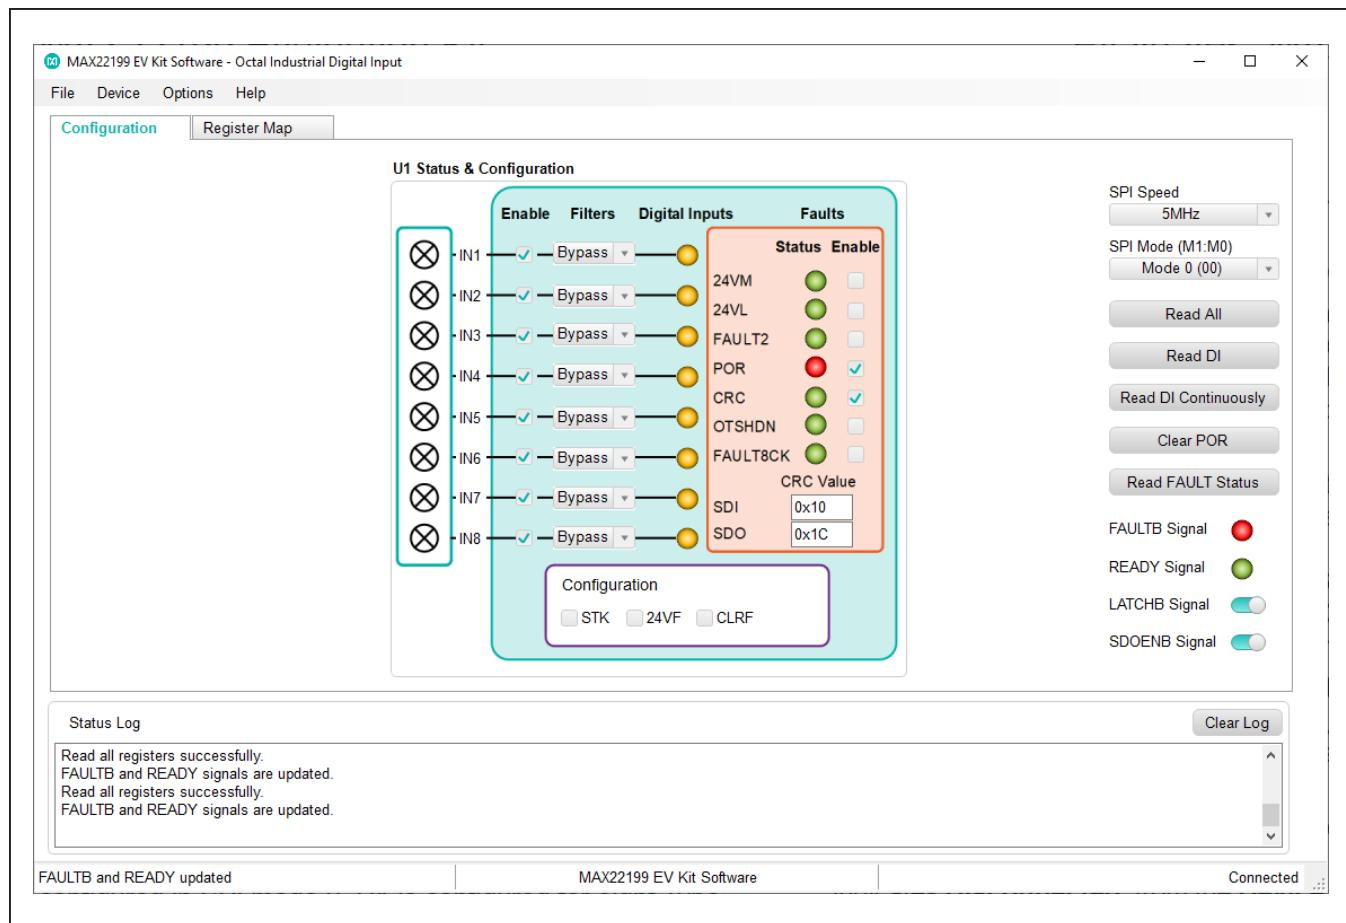
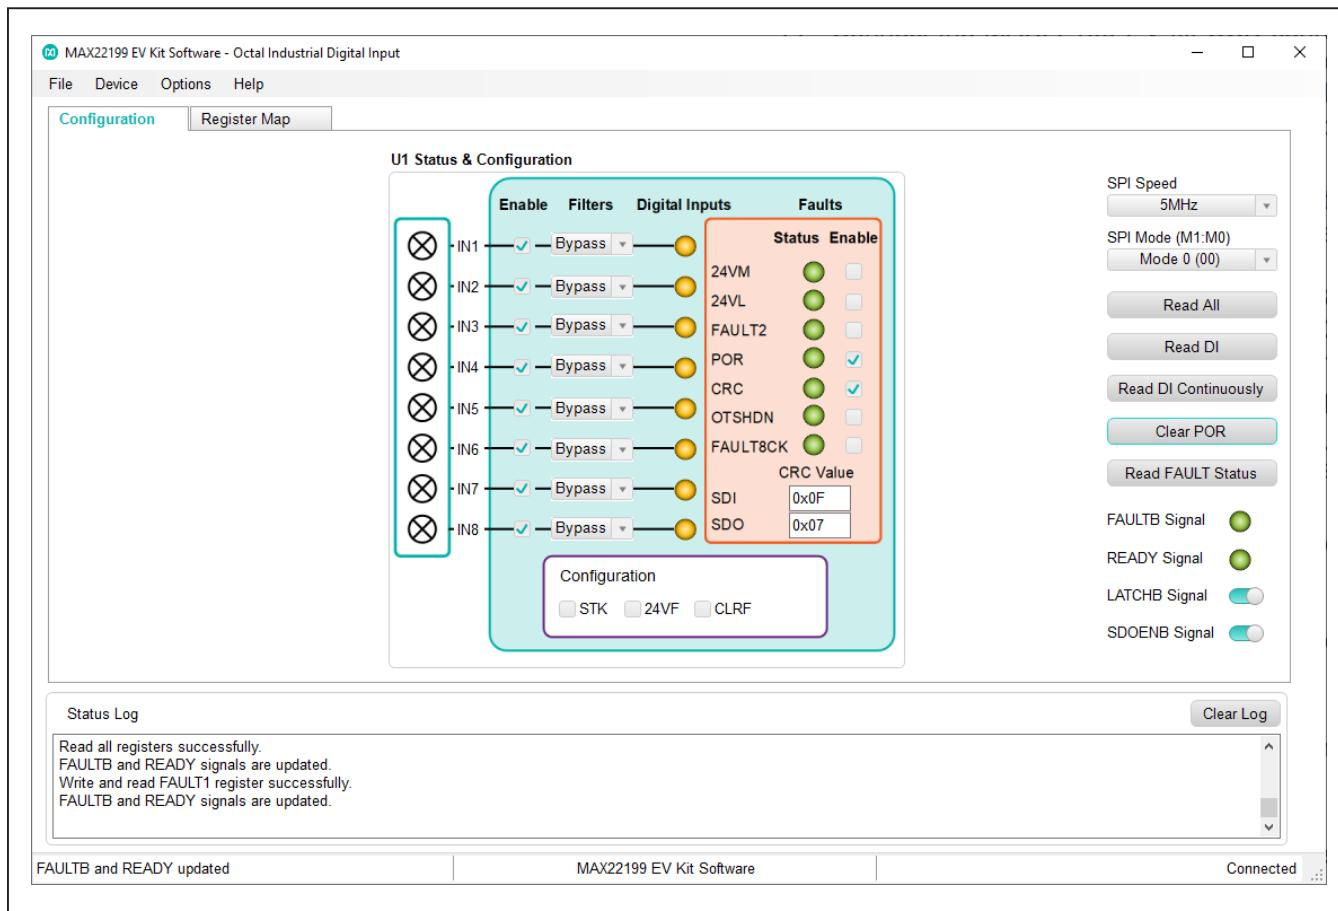

Figure 1. MAX22199 EV Kit Software Startup Window
Figure 2. MAX22199 EV Kit Software—Clear POR
- 9) Once the hardware is ready to use, launch the EV kit software by opening its icon in the Start | Programs menu. The EV kit software appears as shown in Figure 1.
- 11) Click the **Clear POR** button. Observe that **POR** status light for U1 is changed to green, and **FAULTB Signal** status light is also changed to green in the **Configuration** tab as shown in Figure 2.
When the MAX22199 EV kit software starts, it automatically detects if the EV kit is connected to a PC and indicates its status in the status bar at the bottom edge of the GUI. If the software does not recognize the EV kit board, make sure that the software and all drivers are properly installed, check the USB connection, and go to the **Device** menu and select the **Search for Hardware** option. When the EV kit is properly connected, the MAX22199 device (U1) is read and all controls are updated (see Figure 1).
default (Figure 1). After clicking the **Clear POR** button, the software clears the POR bit in the FAULT1 register. The **FAULT** pin is pulled high and FAULTB LED on the EV kit is turned off after clearing the POR (Figure 2).